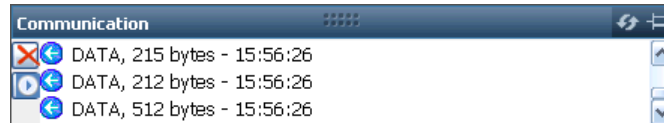

Figure 6: Connection at Incorrect Baud Rate
**COM Port Connection:** Scrolling lines designated as “DATA” indicate a connection is established but the baud rate is not correct (see Figure 6). Reopen the *Port Configuration* dialog box.